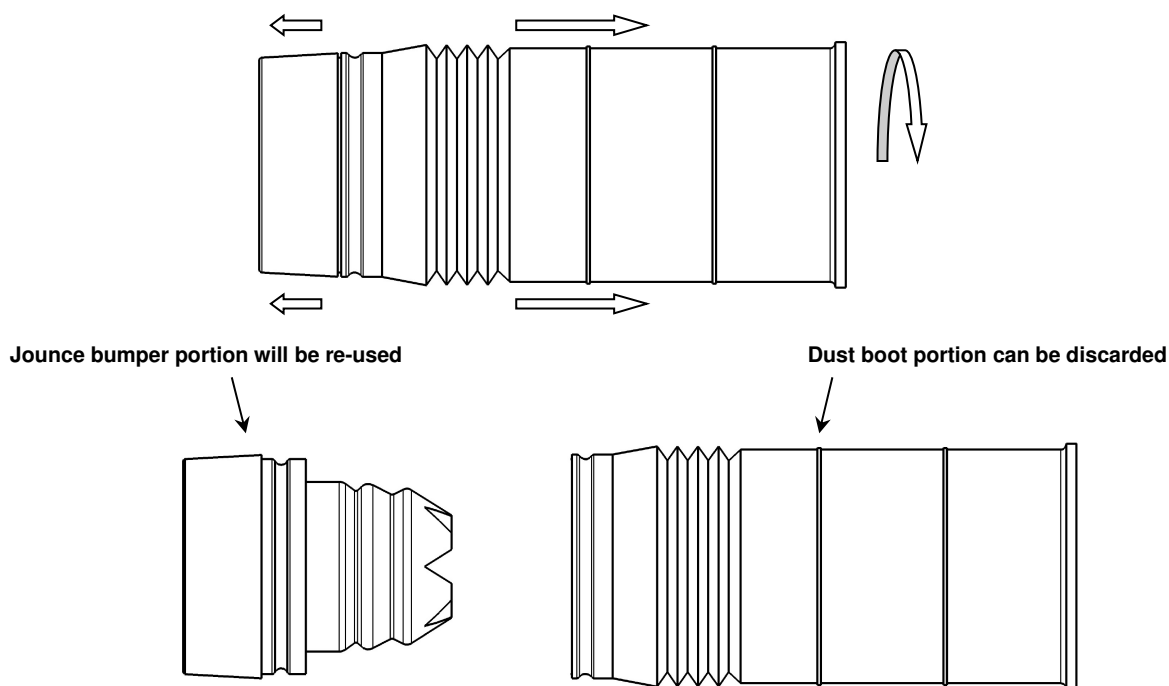

Figure 2: OE Jounce Bumper
- D. Remove OE dust boot shroud from OE jounce bumper & dust boot assembly by pulling, and twisting, the dust boot away from the jounce bumper cap, as shown in Figure 2 below.